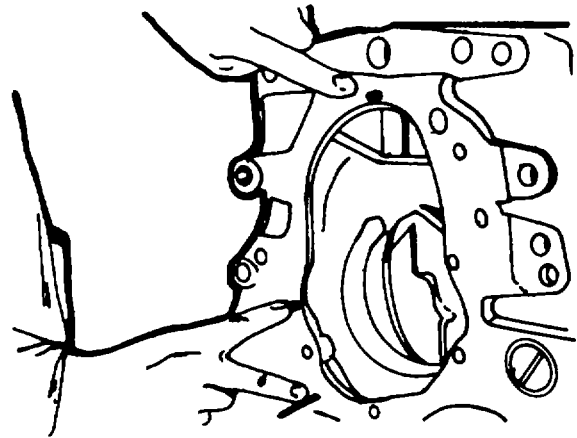

Figure 5-21. Checking Clamping Sleeves
8. Check the three alignment pins on the front of the engine (figure 5-21).
9. If any of the alignment pins are missing or damaged, fit new ones (figure 5-21).